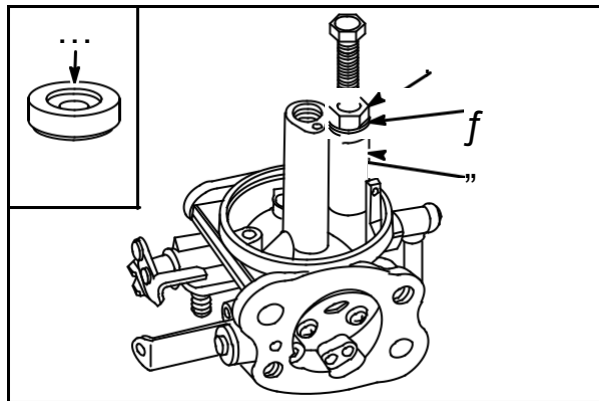

Fig. 50
Install 1/4" x 20 Nut **#92278** (2) and Washer **#224061** (3) from **#19332** Tool Kit onto screw, **Fig. 50**.